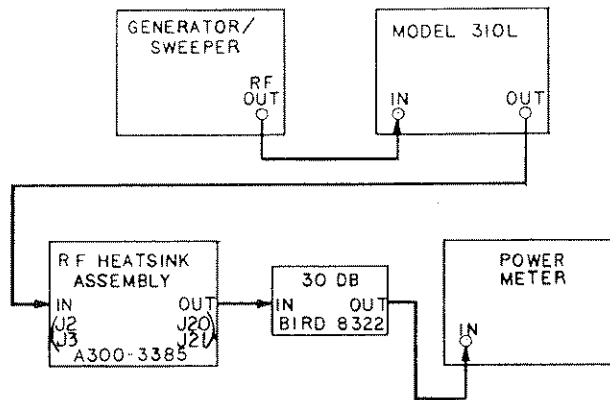

Figure 6-1. RF Heatsink Assembly Test Set Up
- a. Set-up the test equipment as shown in figure 6-1 with the 310L amplifier connected to the splitter input J2 or J3 (right or left hand RF heatsink assembly).